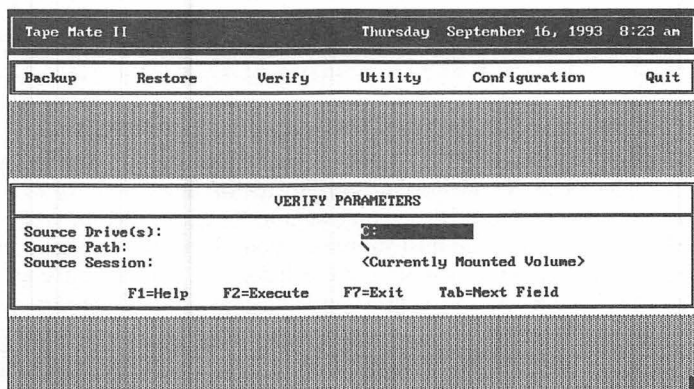

Figure 43 Verify Parameters Dialog Box
- 1 Select **Verify** on the main menu. The Verify Parameters dialog box appears, as shown in *Figure 43*.